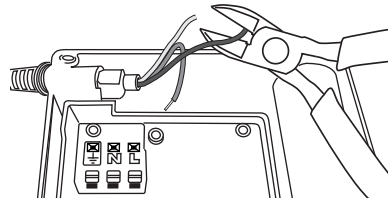

Fig. 2 Cutting the black wire and the white wire
2. Use wire cutters to cut the black wire and the white wire. See fig. 2.